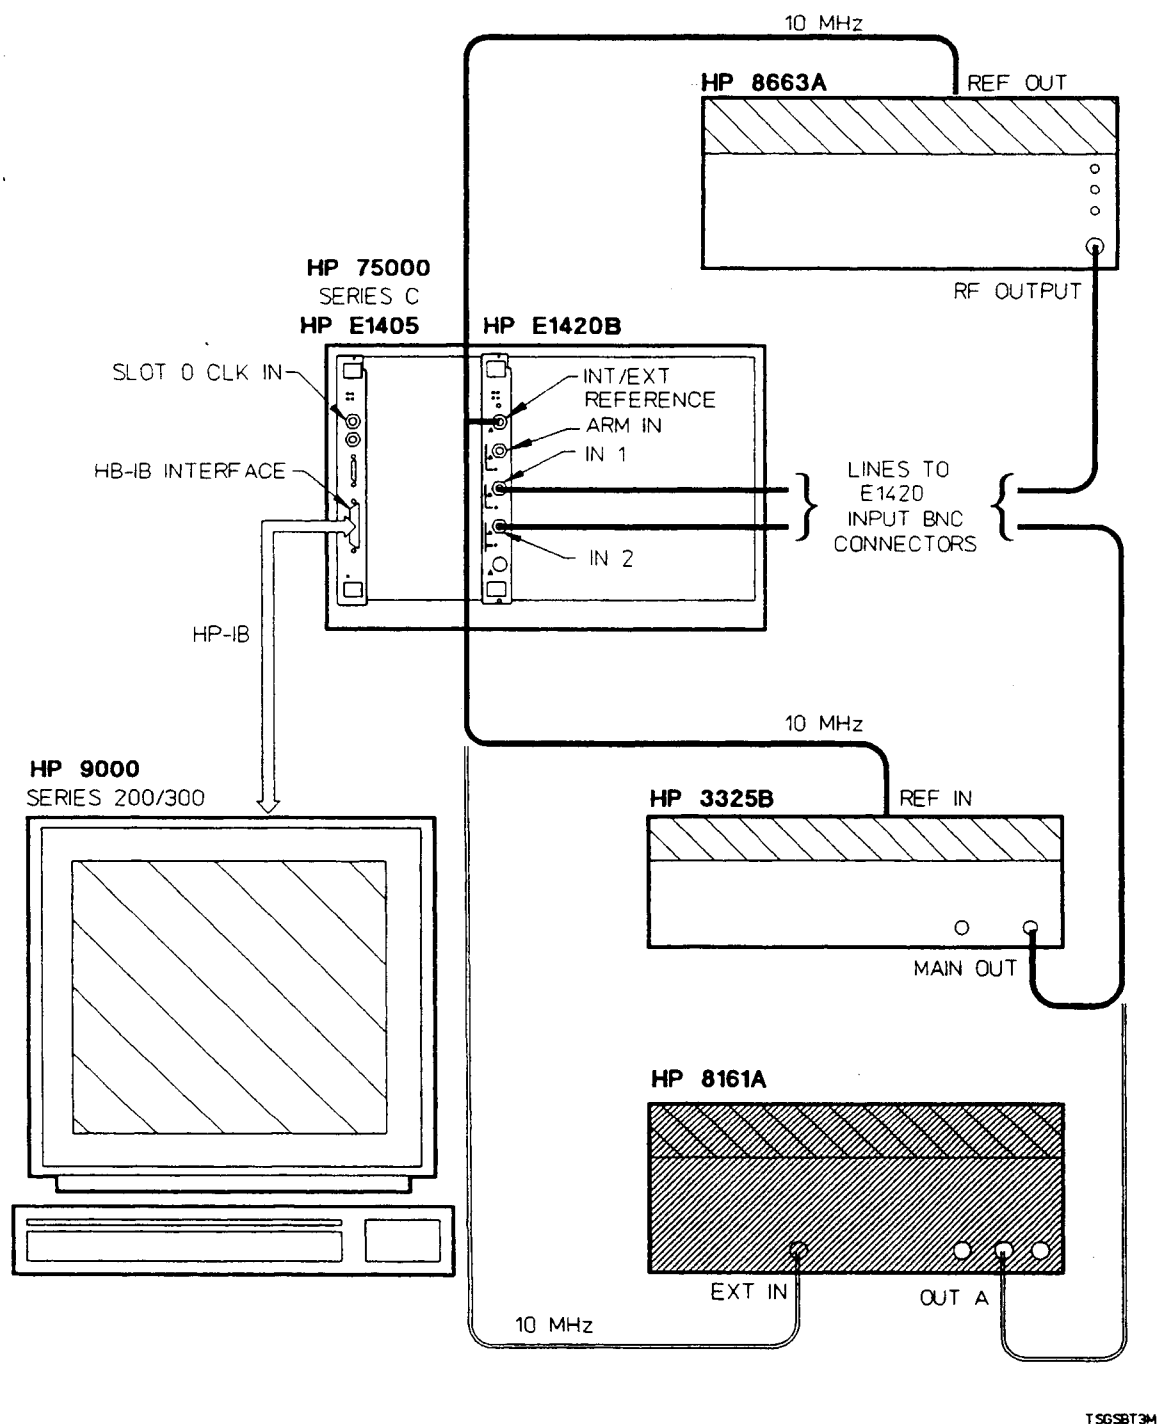

Figure C-1. General Test Setup
These procedures were designed to be performed sequentially in order to fully test the HP E1420B. As in the functional tests, only the SCPI command strings for the counter are given; see Test Procedure Considerations (page C-3) for more information. A view of the general test setup used for all E1420B performance testing is shown in *Figure C-1*.
4. Connect 10 MHz reference output of the HP 8663 Signal Generator (back panel) to the E1420B Int/Ext Reference BNC input and all valid testing equipment external reference frequency inputs, as shown in *Figure C-1*.